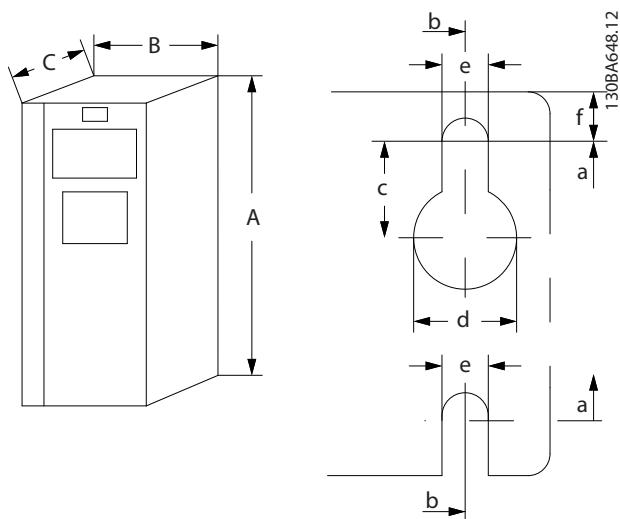
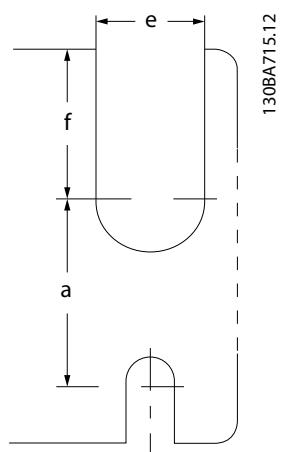

Figure 8.2 Top and Bottom Mounting Holes (See
Figure 8.3 Top and Bottom Mounting Holes (B4, C3, and C4)
1) See *Figure 8.2* and *Figure 8.3* for top and bottom mounting holes.